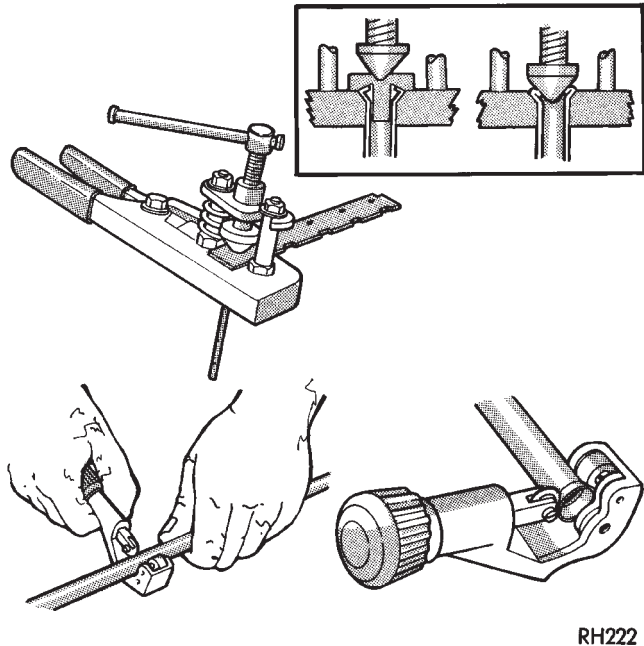

Fig. 14 Inverted Flare Tools
- (1) Cut off damaged tube with Tubing Cutter.
- (2) Ream cut edges of tubing to ensure proper flare.
- (3) Install replacement tube nut on the tube.
- (4) Insert tube in flaring tool.
- (5) Place gauge form over the end of the tube.
- (6) Push tubing through flaring tool jaws until tube contacts recessed notch in gauge that matches tube diameter.
- (7) Tighten the tool bar on the tube
- (8) Insert plug on gauge in the tube. Then swing compression disc over gauge and center tapered flaring screw in recess of compression disc (Fig. 14).
- (9) Tighten tool handle until plug gauge is squarely seated on jaws of flaring tool. This will start the inverted flare.
- (10) Remove the plug gauge and complete the inverted flare.